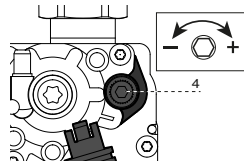

Figure 6 - Max CO2 Adjustment
3. Reinstall the combustion test port. See Figure 6.